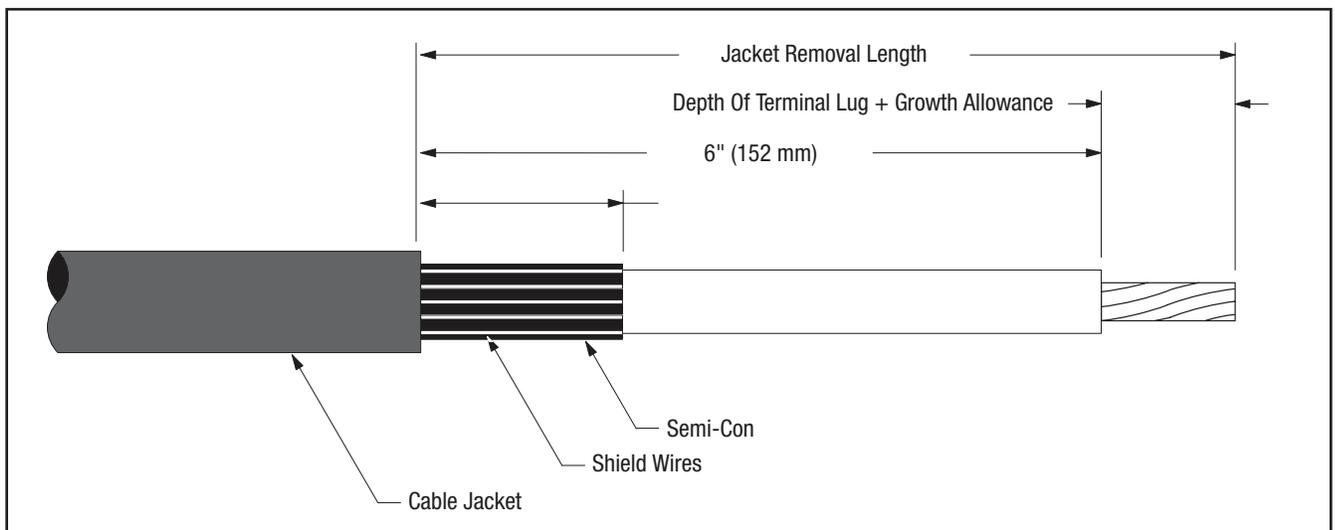
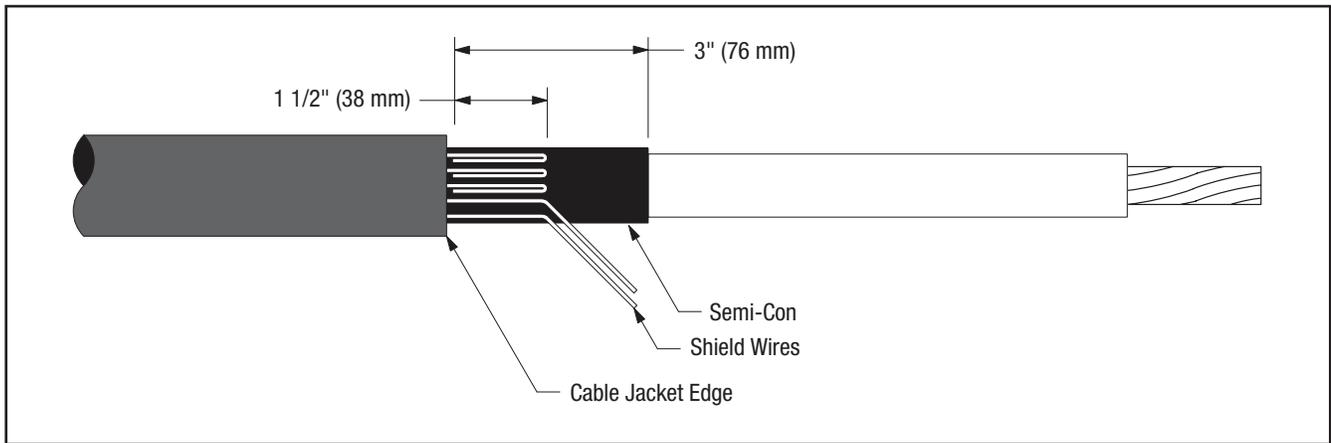

Figure 7
Figure 8
- 7.2 Prepare cable using dimensions shown in *Figure 7 and Figure 8*. **BE SURE TO ALLOW FOR DEPTH OF TERMINAL LUG.**
7.3 Bend leading 1 1/2" (38 mm) of exposed shield wires back upon themselves to jacket edge (*Figure 8*).